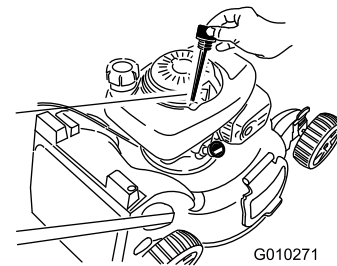

Figure 41
3. Remove the dipstick (Figure 41).